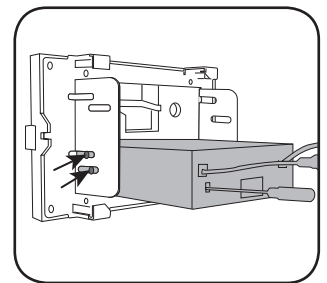

Fig. 3.3
- Slide the radio chassis into the radio bracket and secure it with the hardware provided with the radio. (Fig. 3.3)